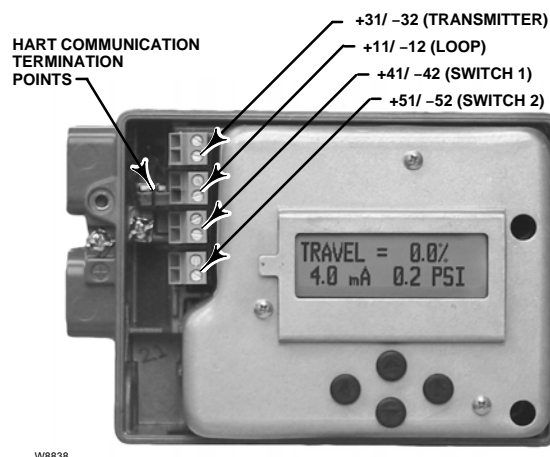

Figure 2-15. Loop, Transmitter, and Limit Switch Terminals
3. Connect the control system input card positive wire "switch input" to the +41 terminal. Connect the control system input card negative wire "switch input" to the -42 terminal. Refer to figure 2-15.
3. Connect the control system input card positive wire "current input" to the +31 terminal. Connect the control system input card negative wire "current input" to the -32 terminal. Refer to figure 2-15.
A HART communicating device, such as a 375 Field Communicator or a personal computer running ValveLink Software communicating through a HART modem, interfaces with the DVC2000 digital valve controller. You can connect at any point on the 4-20 mA loop. Alternatively, convenient termination points are located on the termination board (figure 2-15). The instrument must be powered before digital communication will commence.